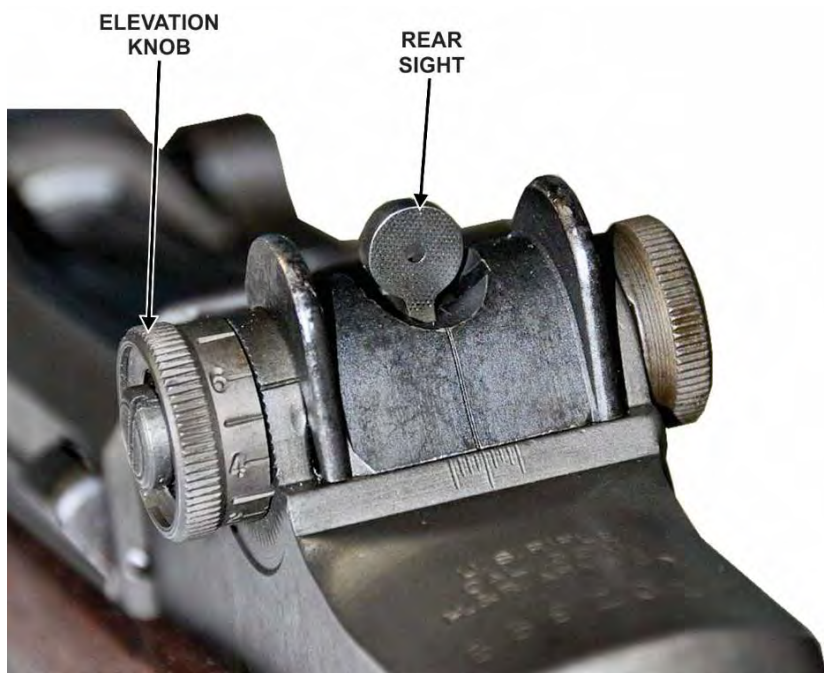

Figure 10. Elevation knob and rear sight
- 2) Rotate the elevation knob so the rear sight is at its lowest position (fig 10). Invert the rifle and place it on a flat surface so that the trigger assembly is facing upward. While securing the rifle with one hand, pull rearward and upward on the trigger guard (fig 11 and 12). Lift straight up to remove the trigger housing assembly.